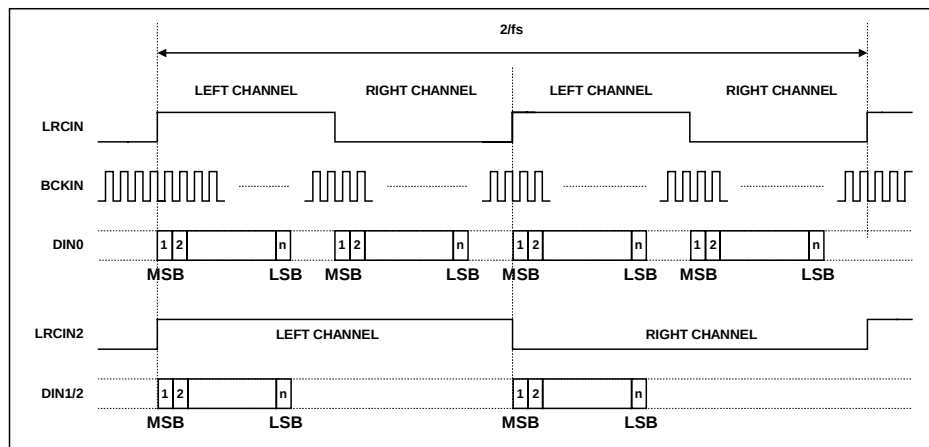

Figure 9 Split Rate Audio Mode Timing Diagram
When running in split rate mode all the channels are clocked in using a common BCKIN; the front channels using LRCIN and all the other channels using LRCIN2 see Figure 9.
1. Figure 9 shows the timing for left justified however this is similar for right justified and i^2s .